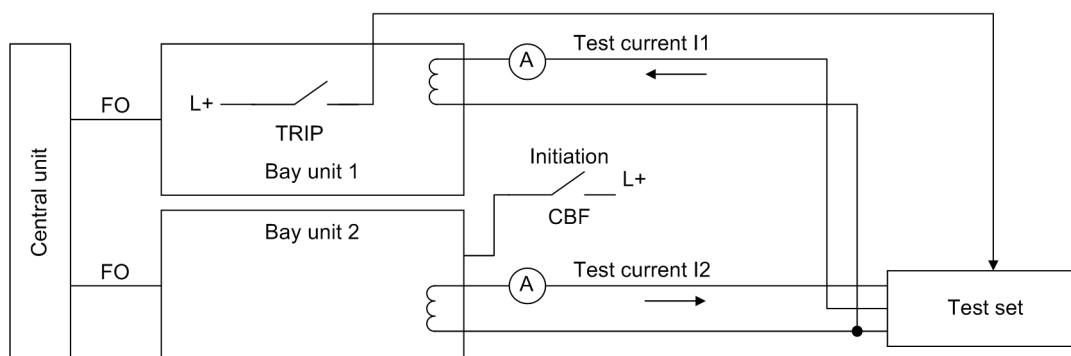

Figure 7-14 Test setup for the trip characteristic of the breaker failure protection
- Test setup** The test setup is shown in Figure 7-14, page 315.
The test setup for the measuring of the time delay is shown in Figure 7-14, page 315.